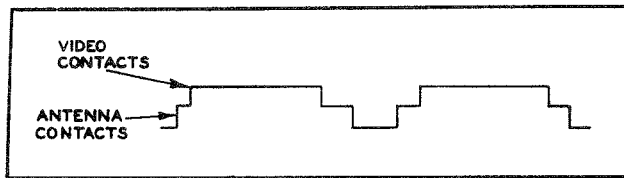

Figure 5-36. Antenna-Video Switch, Waveform Showing Early Closing of One Video Contact
(8) If the waveform looks like that shown in figure 5-36, it indicates that one video switch is closing too soon.